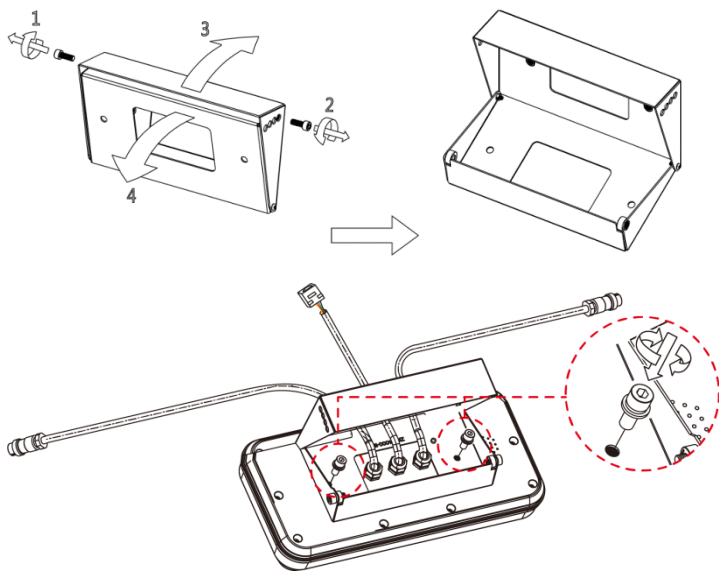

Figure 3-6
Step 5: Install the adjustable metal bracket on the host. The screws and holes on both sides of the bracket can fix and adjust the display angle of the host, as shown in the figure 3-6 below.